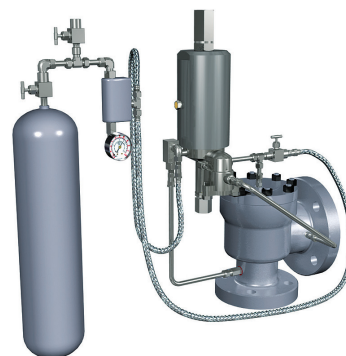

Figure 40: Pilot Valve Tester
2. Pilot Valve Tester (Figure 40):